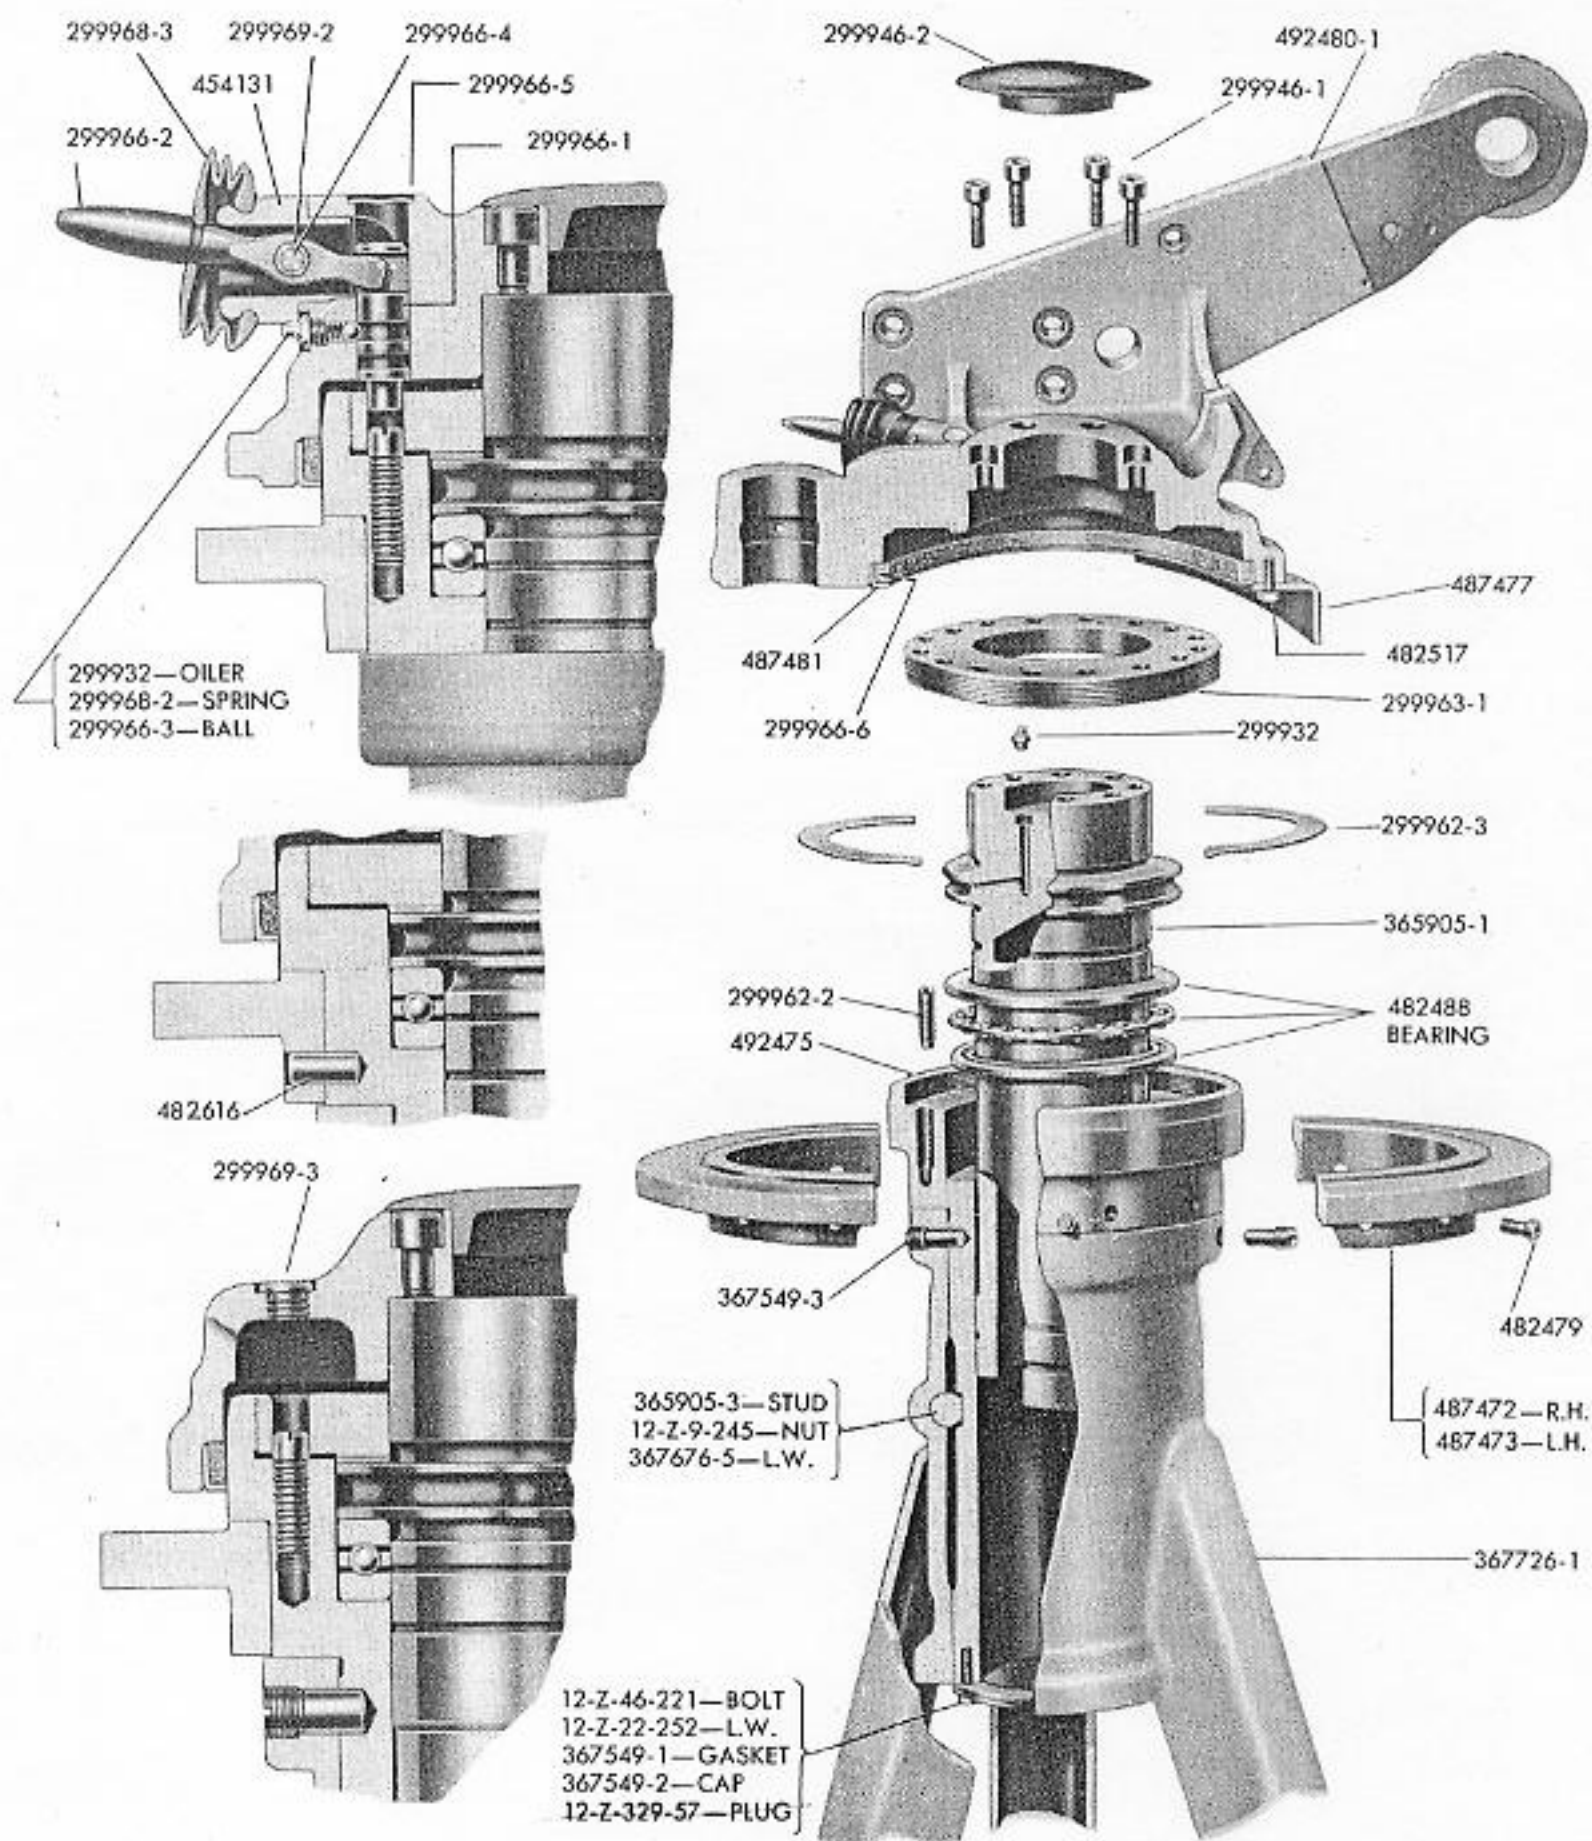

Figure 13. Exploded Cut-Away View of Gun Mount Mk 24 Mod 5.
11. Pivot Retainer. See Fig. 13. Unscrew and remove the pivot-retainer lock-screw cover plug (299969-3) from the base of the carriage. Unlock the carriage lock and turn the carriage until the pivot-retainer lock screw is exposed by the hole in the carriage. The position of the lock screw is indicated by an arrow on the stand
Carriage Lock. See Fig. 13. Remove the
Cam Shield. Remove the cam shield (487477) by removing the three screws (482517) which hold the shield to the carriage. See Fig. 13.
1. Pivot Housing. See Fig. 13. Assemble the pivot-housing cap (367549-2) and gasket (367549-1) on the pivot housing (492498—plain bearing type or 492475—ball bearing type) with six screws (12-Z-46-221) and lock washers (12-Z-22-252). Coat the interior of the stand weldment (367726-1) and the exterior of the pivot housing with bearing grease OS-1350, and place the pivot housing in the weldment with the draw stud notches of the two pieces in alignment. Install and stake in place the two dowel screws (367549-3) holding the housing in the weldment. Coat the draw stud (365905-3) with grease OS-1350 and install it in the stand and secure with lock washer (367676-5) and nut (12-Z-9-245). Do not tighten the nut excessively as the pivot housing may be distorted. If the cam dowels (482616) were removed, drive a pair of dowels into the reamed holes in the pivot housing. Assemble the cam plates (487472—R.H. and 487473—L.H.) on the pivot housing over the cam dowels and secure with eight screws (482479). **Note.** If the cams have never been machined and are still in the blank form, leave one of them off in order to have clearance to install the carriage in a later operation. Install a pressure oiler (299932) in the stand sleeve and in the pivot housing. The male threads should be coated with white lead or other sealer.